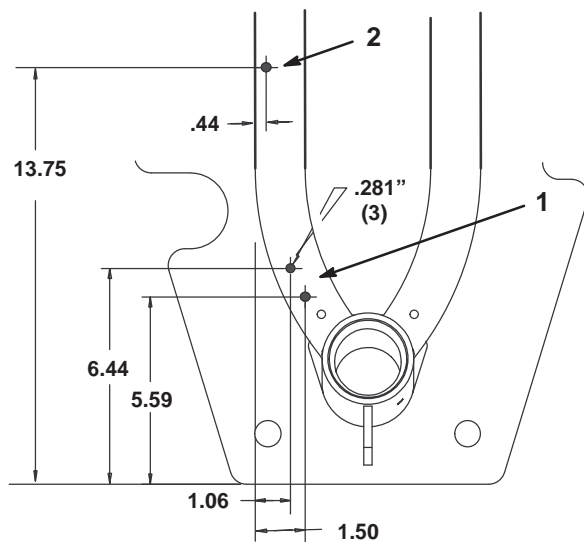

Figure 6
7. Using bulkhead bracket as a template and dimensions shown in figure 6, locate, mark and drill (2) .281 in. diameter holes into frame tube. Dimensions shown in Figure 6 are for location reference of bracket.
8. Also, use remaining dimensions shown in figure 6, to locate, mark and drill a .281 in. diameter hole into frame tube.
Note: Figure 6 is shown as viewed from under machine.